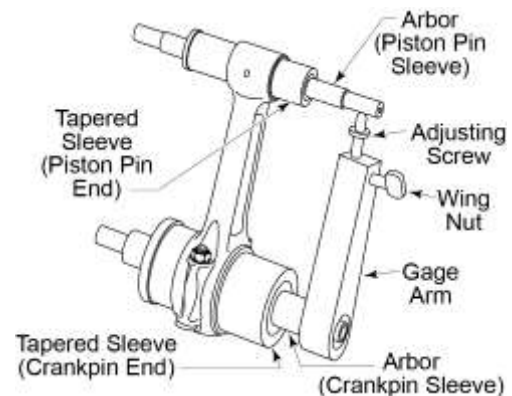

Figure 40
- B. Insert the tapered sleeves (Figure 40) of the Connecting Rod Parallelism and Squareness Gage P/N 64530 in the bearing holes in the connecting rod.
- D. Install the gage arm on the arbor as shown in Figure 40.